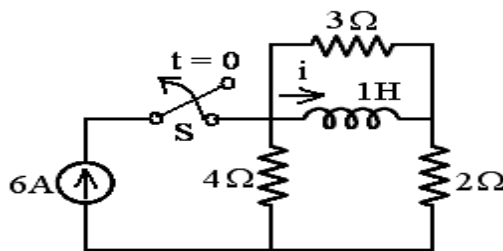

Fig.1
- 1.a) Determine  $i$ , when the switch is opened at  $t = 0$  for the circuit shown in Fig.1. Assume that the switch is closed for a long time.